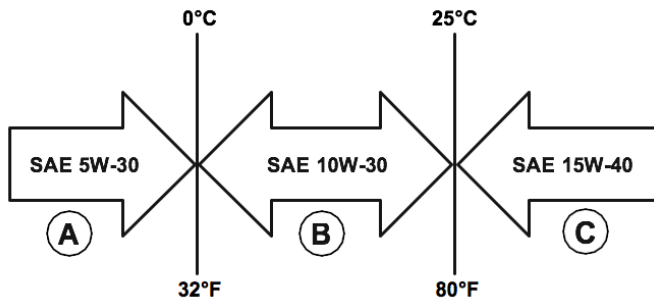

Figure 10: Recommended Oil
1. Only use the engine oil specified in Figure 10.
7. Select the proper engine oil as specified in Figure 10.